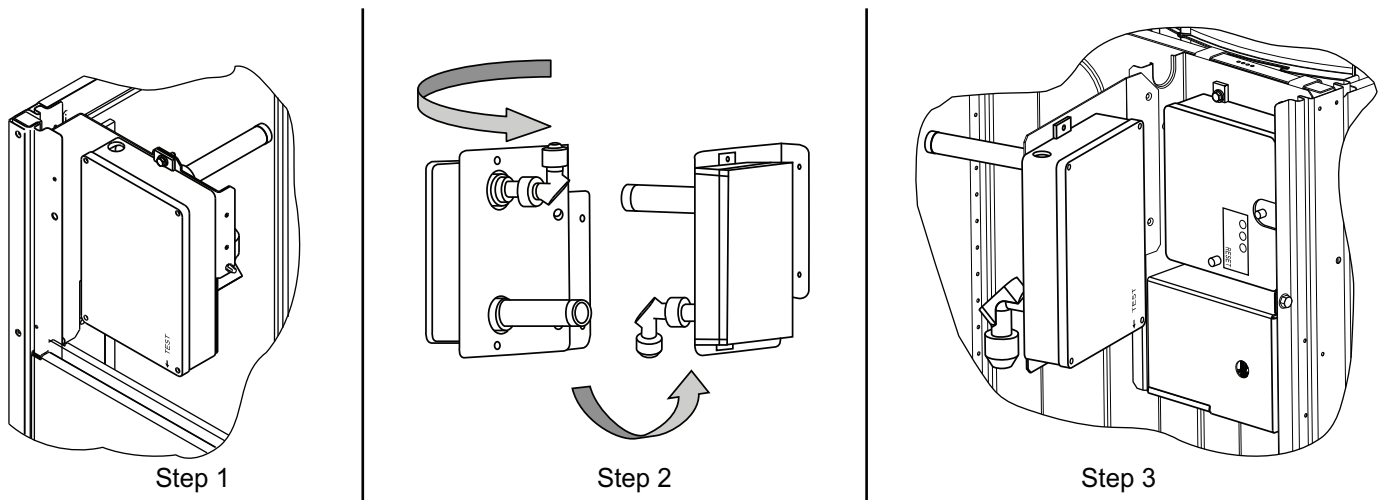

Fig. 79 — Completing Installation of Return Air Smoke Sensor
2. Unscrew the two screws holding the return-air smoke detector assembly. See Fig. 79, Step 1.
4. Turn the assembly 90 degrees and then rotate end to end. Make sure that the elbow fitting is pointing down. See Fig. 79, Step 2.
5. Screw the sensor and detector plate into its operating position using screws from Step 2. See Fig. 79, Step 3.